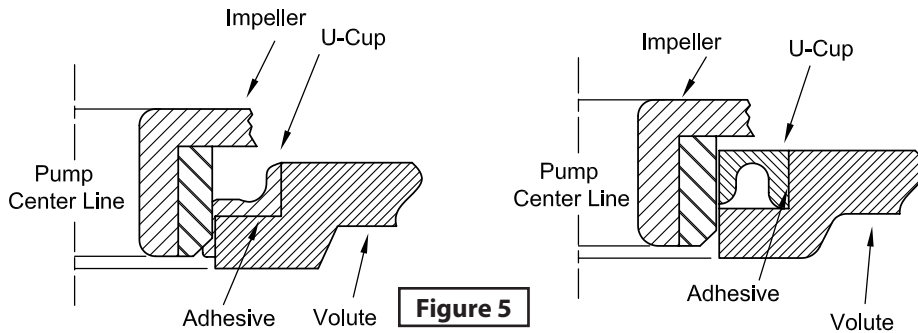

Figure 5
CAUTION! - Be sure the inside lip of the U-cup (33) is not pushed out of place when assembling volute (1) to rest of the pump (see Figure 5).